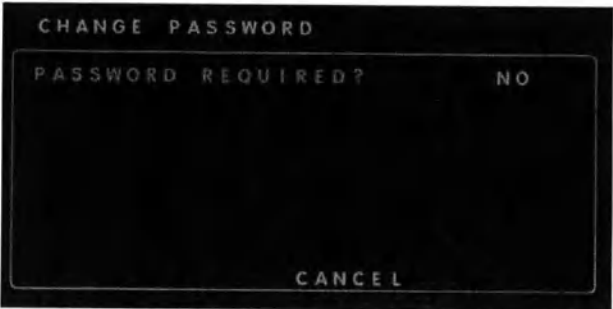

Figure 22. Set/Change Password
1. Select the **Set/Change User Password** icon on the SYSTEM CONFIGURATION MENU screen to open the CHANGE PASSWORD screen (Figure 22). **PASSWORD REQUIRED** is blinking. The default is set to **NO**.